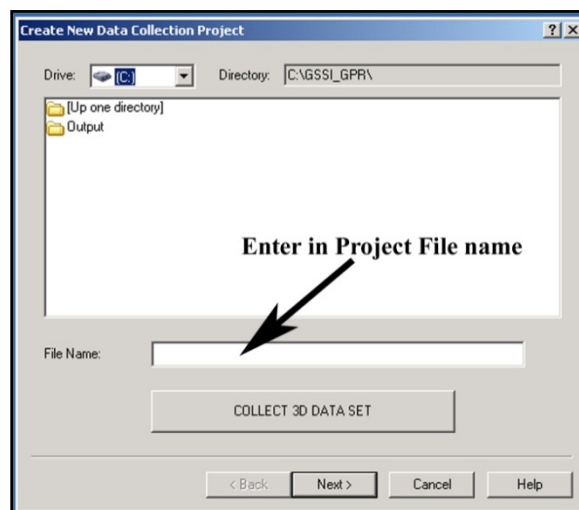

Figure 32: Project File Name box.
- 1** Create a new collection project by going to File>New or clicking the New Project button  on the collection controls bar. This will open a window with the heading Create New Data Collection Project (Figure 32). Enter a project file name in the white box that is labeled "File Name." Remember to keep the name to not more than 8 characters because the name will be cropped after the eighth character. Alphanumeric values are acceptable. Do not use any symbols.